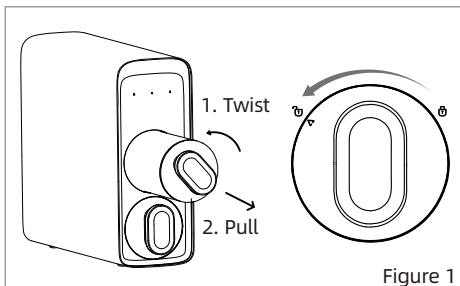

Figure 1
- Twist the filter that needs to be replaced anticlockwise and pull it out (Figure 1).